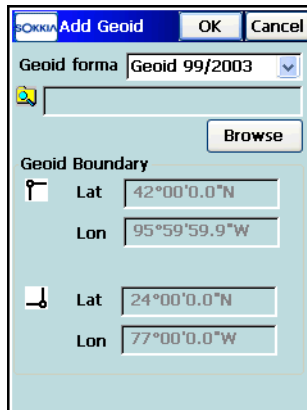

Figure 4-92. Geoid Parameters
2. On the *Add Geoid* screen (Figure 4-92), select a Geoid file from the controller directory to view the boundaries of the geoid application. Select either *Geoid 99/2003*, *Australian*, *Canadian 2000*, *Canadian 95*, *Geoid File Format*, *Mexico 97*, *Sweden*, *Denmark*, *Dutch2004 Files*, or *Norwegian Files*.